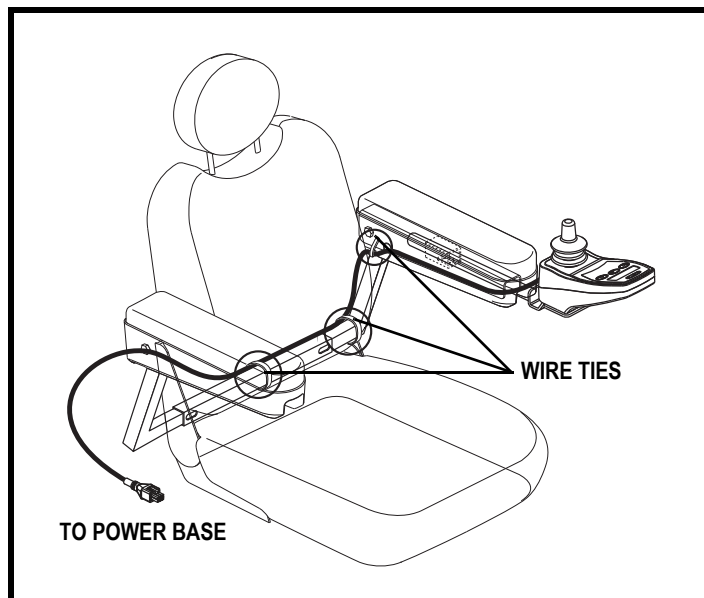

Figure 9. Controller Harness Routing on a Contour Seat
4. Install the controller and route the harness to the back of the power base. See figure 9.
6. Secure the controller harness to the armrest receiver with wire ties. See figure 9.